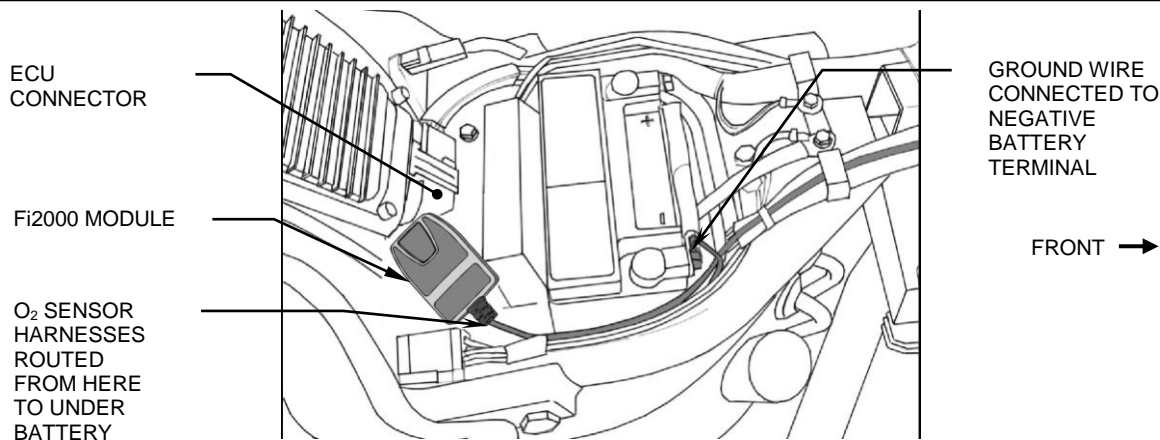

FIGURE 1
3. Lay the Fi2000 module in the area underneath the seat, do not attach it to the motorcycle, route the injector wire harness forward up the right side of the frame backbone, see Figure 1. Route the forward set of connectors under the upper motor mount.
10. Reinstall the battery, attach the black wire to the negative post of the battery, see Figure 1.
12. Remove the backing from the Velcro and attach the Fi2000 as shown in Figure 1.